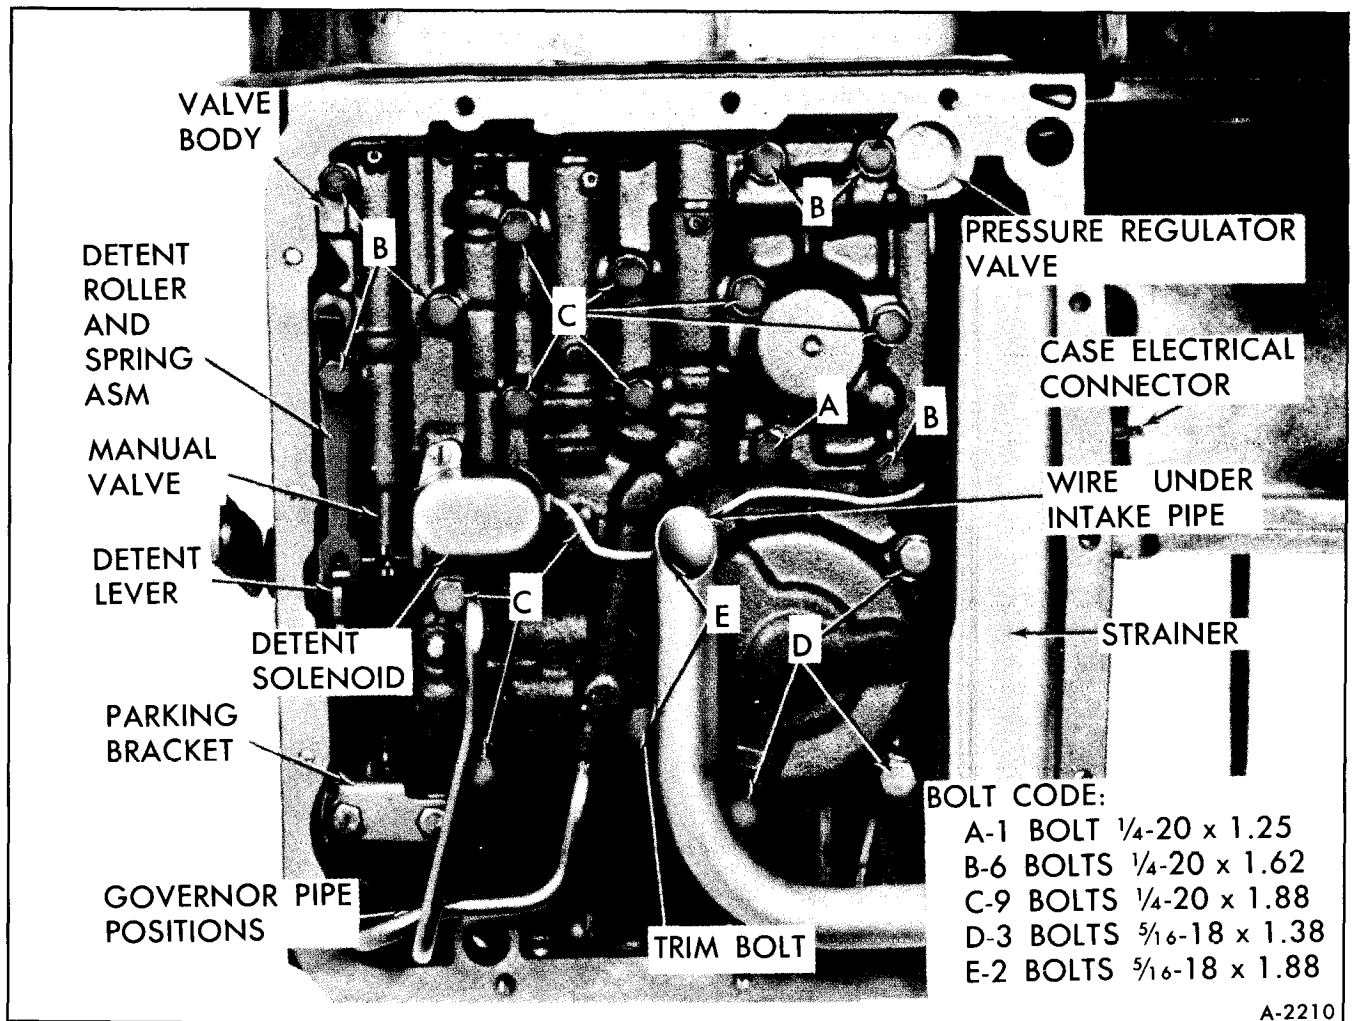

Figure 93-Control Valve Screws
2. Remove guide pins and install control valve assembly attaching screws, eliminating detent roller and spring assembly attaching screw. Torque bolts to 8 foot-pounds, Figure 93.